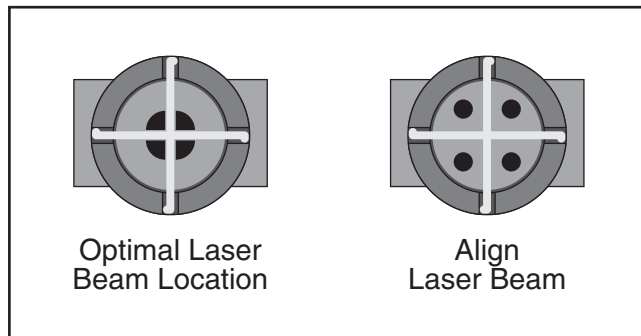

Figure 106. Laser beam alignment marks.
11. Close top loading door and check alignment by pressing Pulse button on control panel. Compare results with **Figure 106** below.
14. Verify mirror adjustment by pressing Pulse button on control panel. Compare results with those shown in **Figure 106** on **Page 73**.
16. Check alignment by pressing Pulse button on control panel. Compare results with those shown in **Figure 106** on **Page 73**.